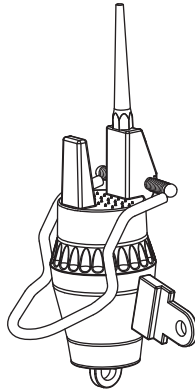

Figure 1 WSO-11 Radio Activation
- Step 2. Hold the exposed magnet over the ACTIVATE label (see *Figure 1*) on the WSO-11 for a minimum of 10 seconds.